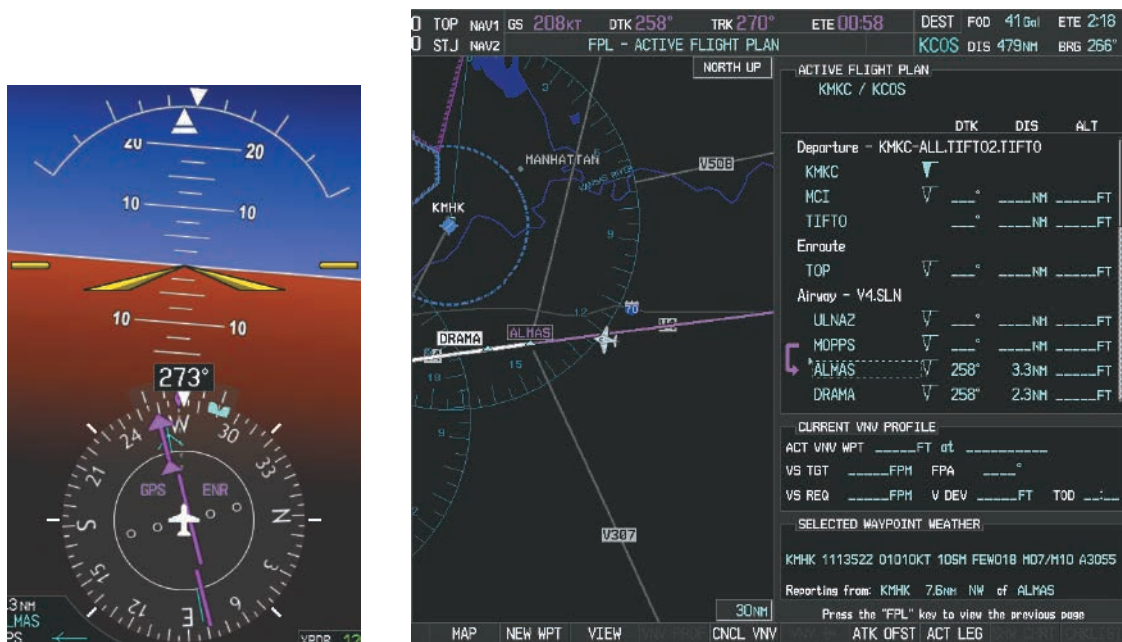

Figure 5-123 Turn on to Active Leg
- 7) As the CDI approaches center, the aircraft turns onto the active leg as seen in Figure 5-123.